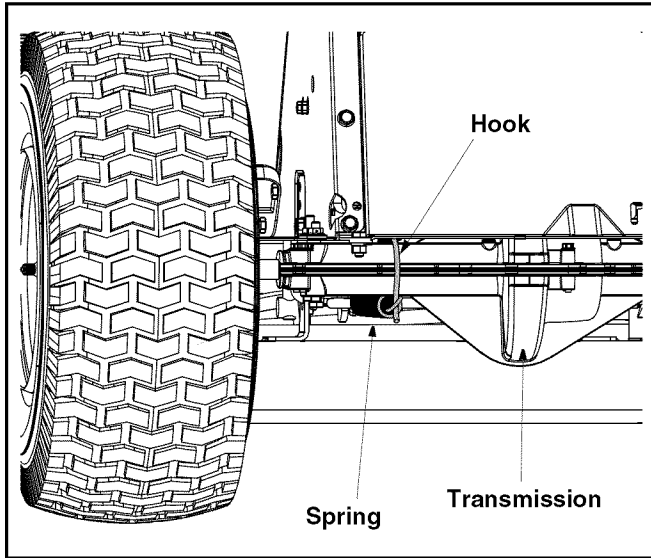
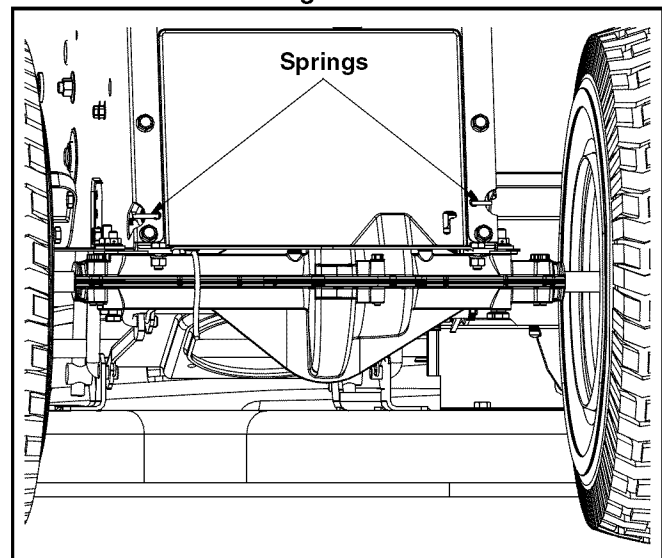

Figure 28
Figure 34
- Using a spring puller (MTD Part No. 732-0571) or other suitable tool, disconnect the spring which is attached to a small hook found on the left, rear portion of the transmission. See Figure 28.
- Using a spring puller (MTD Part No. 732-0571) or other suitable tool, disconnect the spring which is attached to a small hook found on the left, rear portion of the transmission (Refer to Figure 28) and the two springs which are attached to the rear portion of the tractor frame. See to Figure 34.